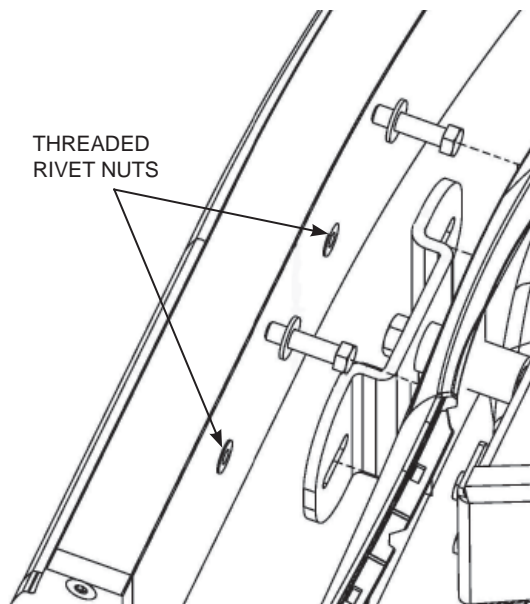

FIG. 5
- A. Orient the 3PBW1200 hat channel brackets as shown in Figure 4, in order to line up the two slots with the threaded rivet nuts in the push bumper wrap. (Fig. 5)